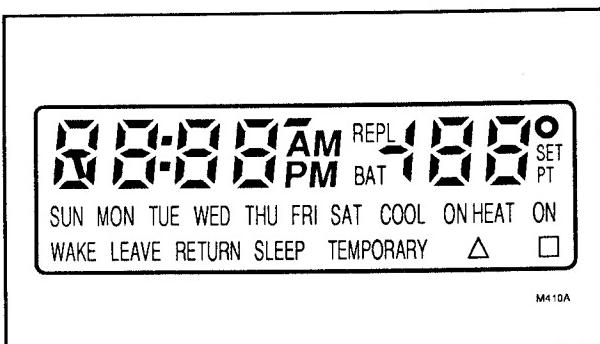

FIG. 53—ALL SEGMENTS ON DISPLAY.
1. Press AHEAD and BACK keys at the same time. While holding keys down, all segments of the display should be on Fig. 53.